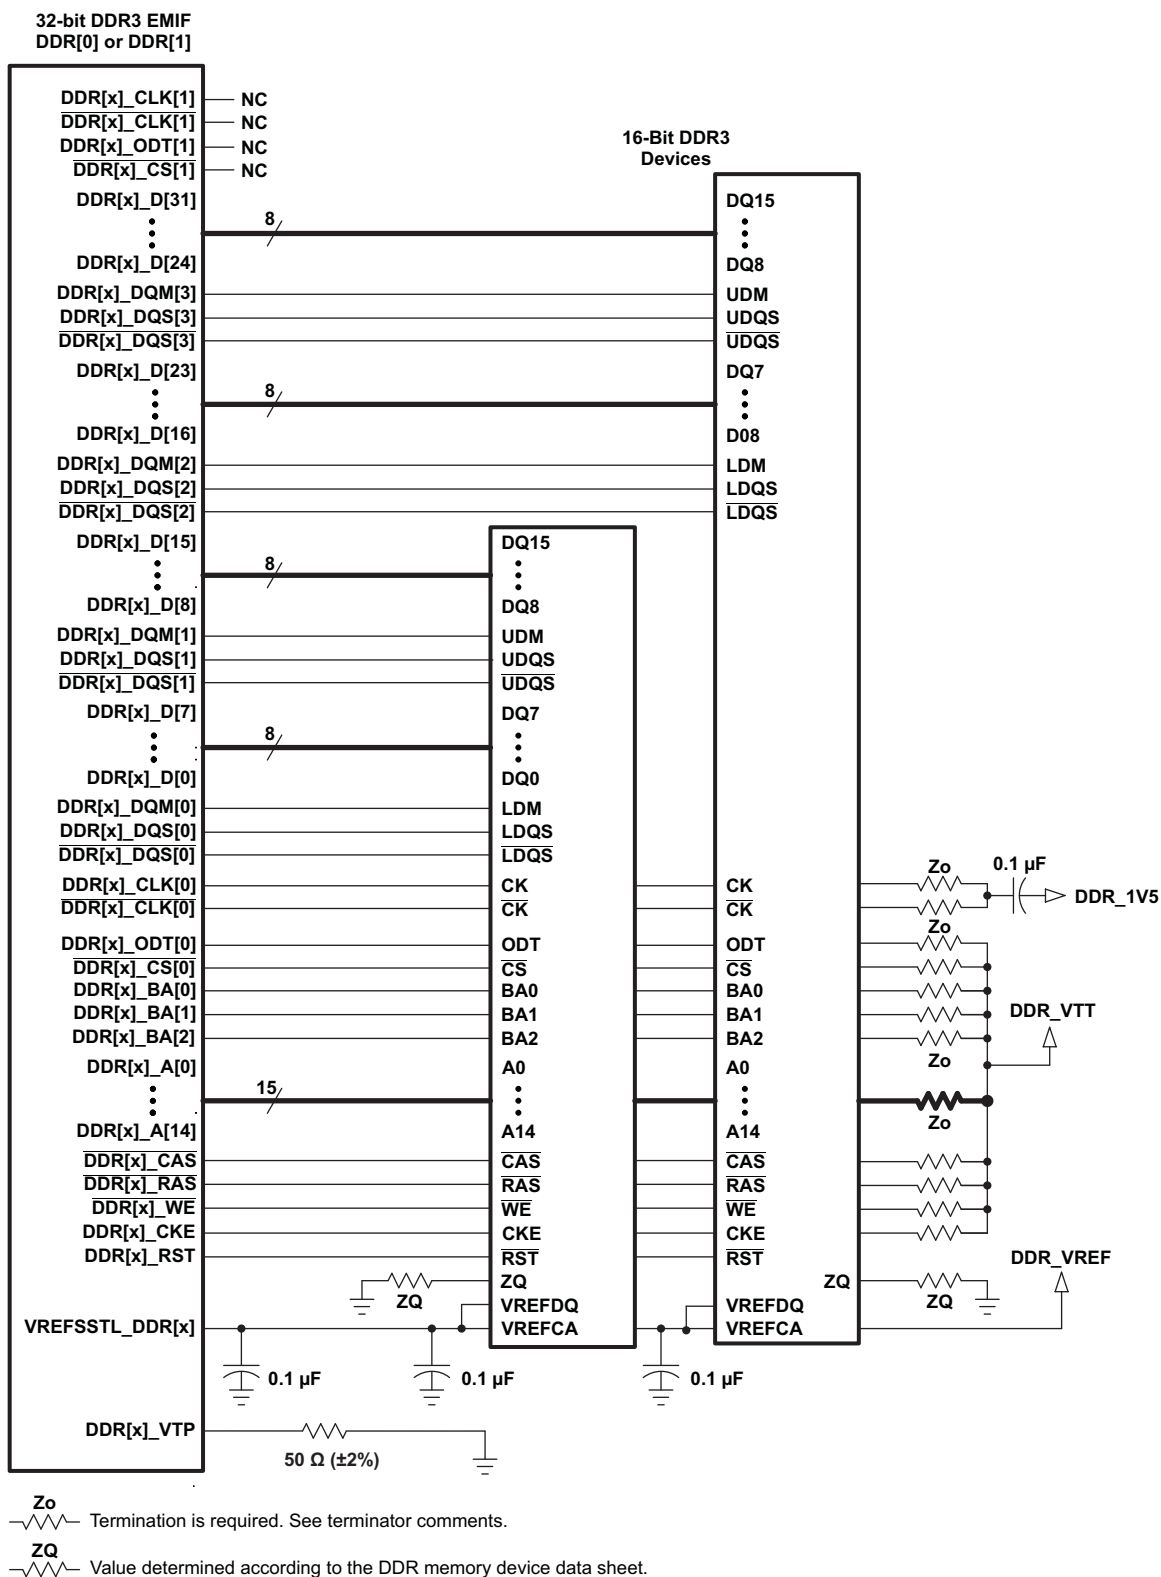
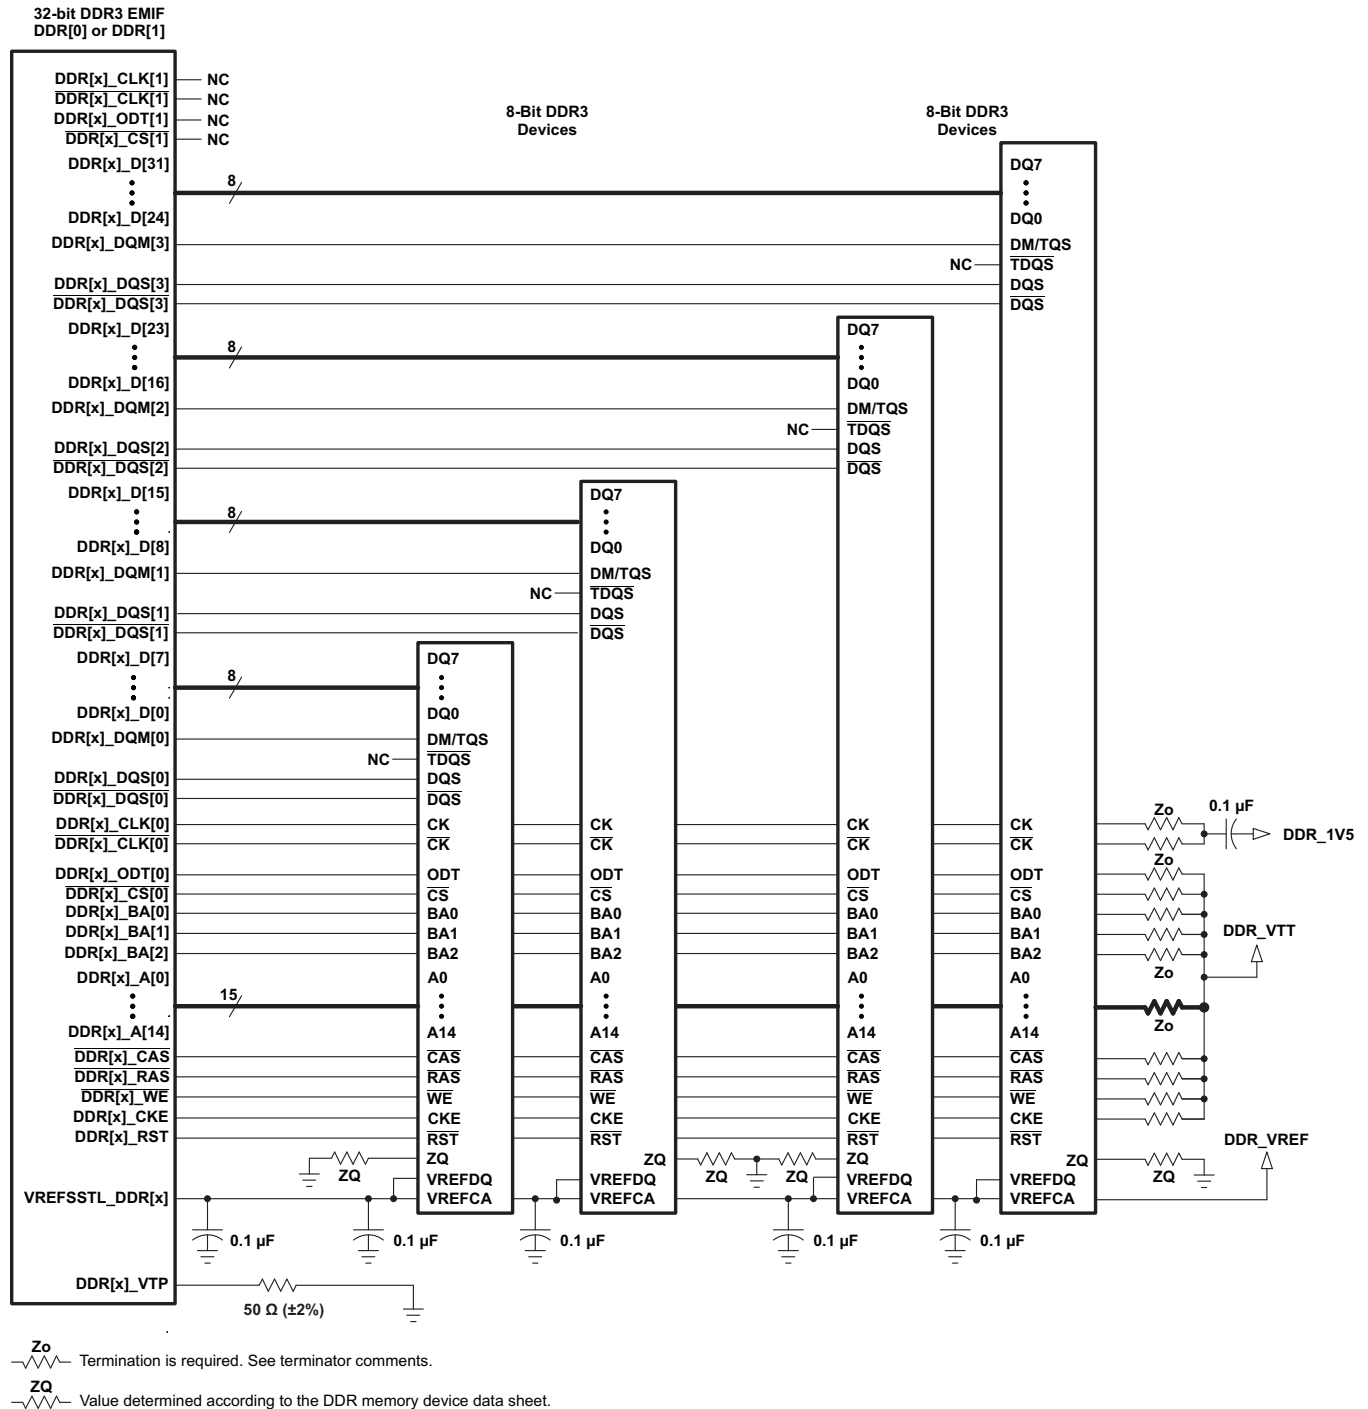

Figure 9-13. 32-Bit, One-Bank DDR3 Interface Schematic Using Two 16-Bit DDR3 Devices
Figure 9-14. 32-Bit, One-Bank DDR3 Interface Schematic Using Four 8-Bit DDR3 Devices
The DDR3 interface schematic varies, depending upon the width of the DDR3 devices used and the width of the bus used (16 or 32 bits). General connectivity is straightforward and very similar. 16-bit DDR devices look like two 8-bit devices. Figure 9-13 and Figure 9-14 show the schematic connections for 32-bit interfaces using x16 devices.
Note that the 16-bit wide interface schematic is practically identical to the 32-bit interface (see Figure 9-13 and Figure 9-14); only the high-word DDR memories are removed and the unused DQS inputs are tied off. The processor DDR[x]_DQS[2] and DDR[x]_DQS[3] pins should be pulled to the DDR supply via 1-kΩ resistors. Similarly, the $\overline{\text{DDR}}[\text{x}]_{\text{DQS}}[2]$ and $\overline{\text{DDR}}[\text{x}]_{\text{DQS}}[3]$ pins should be pulled to ground via 1-kΩ resistors.
(1) DDR3 speed grade depends on desired clock rate. Data rate is 2x the clock rate. For DDR3-1600, the clock rate is 800 MHz.
(2) For valid DDR3 device configurations and device counts, see Section 9.3.2.3, Figure 9-13, and Figure 9-14.